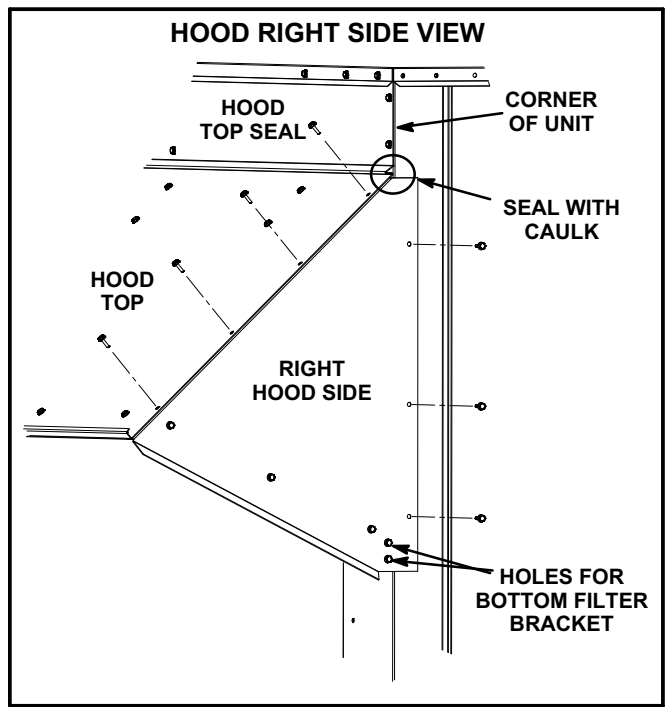

FIGURE 24
- 13- Secure the right hood side to the hood top. See figure 24. Do NOT secure the right hood side to unit.
- 16- Secure the right hood side to the unit as shown in figure 24.